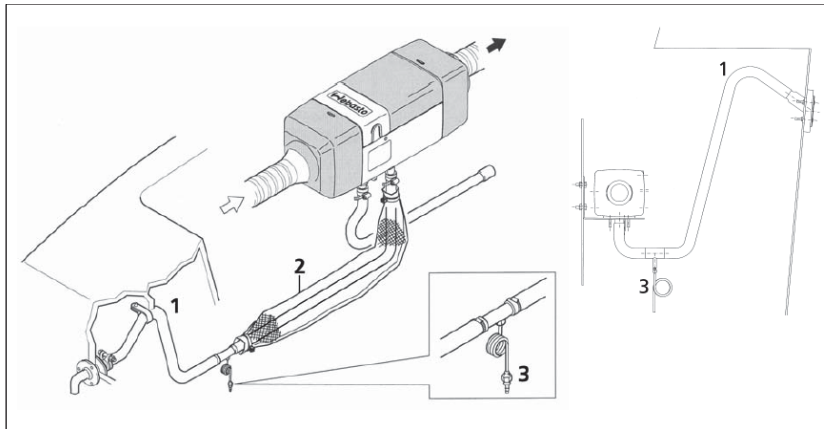

Fig. 28 Exhaust system
Legend for Figure 28 above:
At the lowermost point of the exhaust gas line, a condensation water drain (see Fig. 28, item 3) can be installed via which the condensation water collecting in the exhaust gas line can be drained off at regular intervals. A condensation drain is provided in your heater kit to drain off any collected condensation or sea water that may enter the exhaust. Fill condensation drain with water to provide a seal against exhaust gas leakage once drain has been installed.